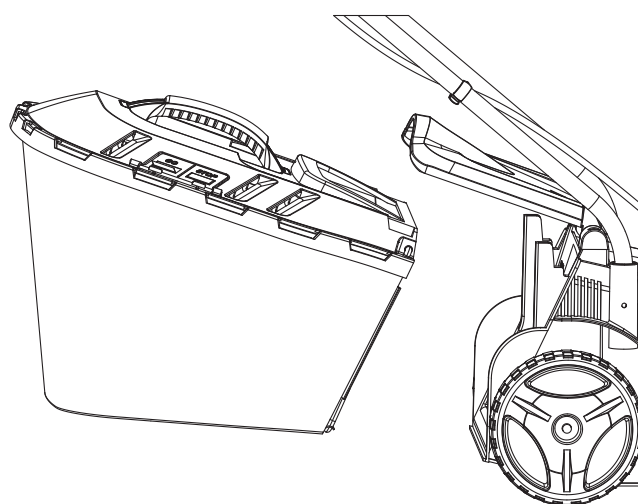

Fig. 2
2. Lift the collector flap with one hand. With the other hand hold the grass collector by the handle and hook it (Fig. 2).